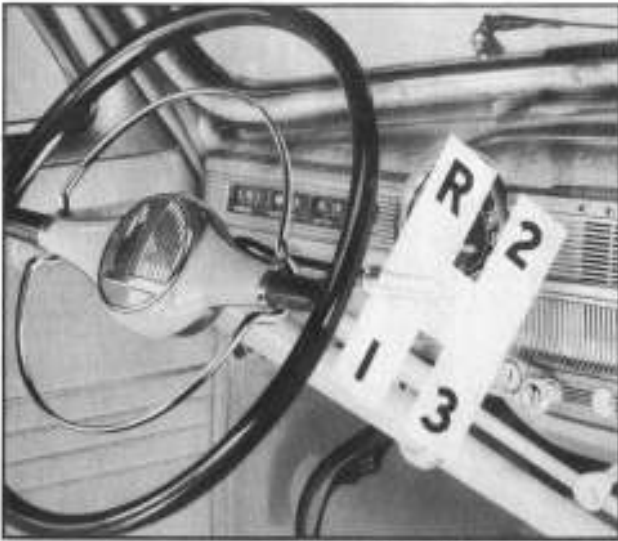

Fig. 2—Transmission Gearshifting Diagram
TRANSMISSION GEARSHIFT LEVER No. 21 is used to select various gear ratios provided in the transmission. There are three speeds forward and one reverse. The illustration, Fig. 2, shows the gearshift lever positions for the various speeds.
1. Transmission gearshift lever must be in neutral position. See Fig. 2.
2. Move transmission gearshift lever into first speed position. See shifting diagram, Fig. 2.